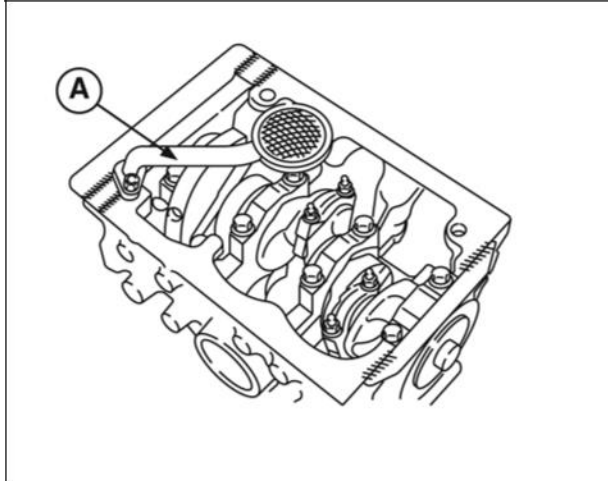

Figure 2
8. Remove oil pick-up tube (A, Figure 2) and strainer. Discard gasket.